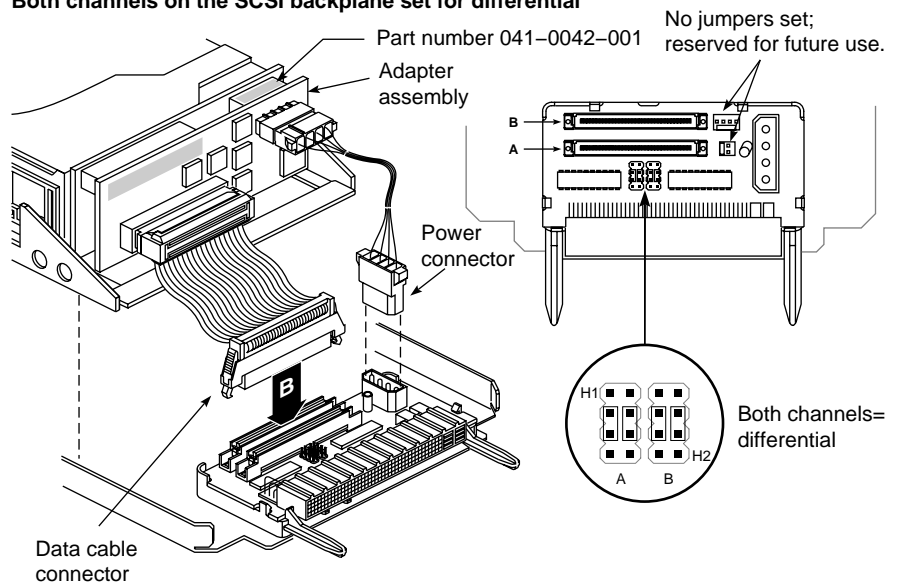

Figure 4-2 Channel Adapter Settings (Same Channel Configurations)
2. Each FLD is shipped with a drive sled channel adapter that must be configured to match the attached drive. Then the FLD must be installed in a SCSI channel of the same configuration as the drive and the channel adapter. Ensure that your channel adapter configuration matches the configuration of your drive. Figure 4-1 and Figure 4-2 show the possible channel configurations.
To select the SCSI channel to which the FLD will be attached, insert the free end of the ribbon cable, coming from the drive, into the connector on the drive sled channel adapter that corresponds to the selected channel (see Figure 4-1 and Figure 4-2).